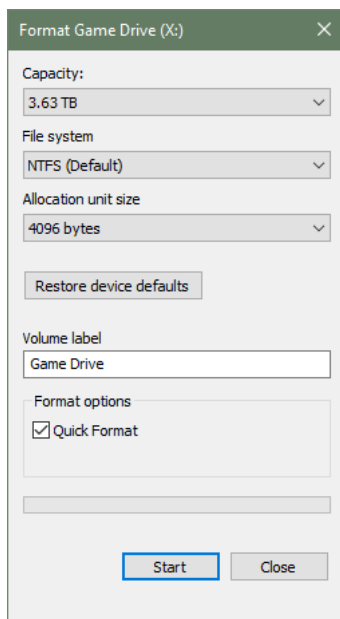

Figure 27. Storage Device Formatting Window
- 4) In the drop-down menu, select “Format”. The following window in Figure 27 appears: